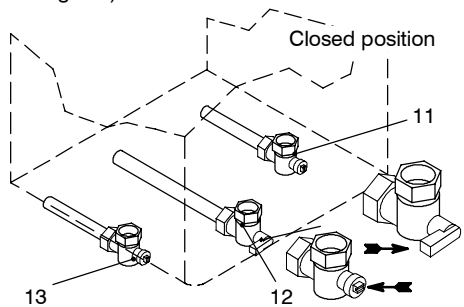

Fig. 9.3
- 1 Close the c.h. isolating valves (11 and 13 in Fig. 9.3).